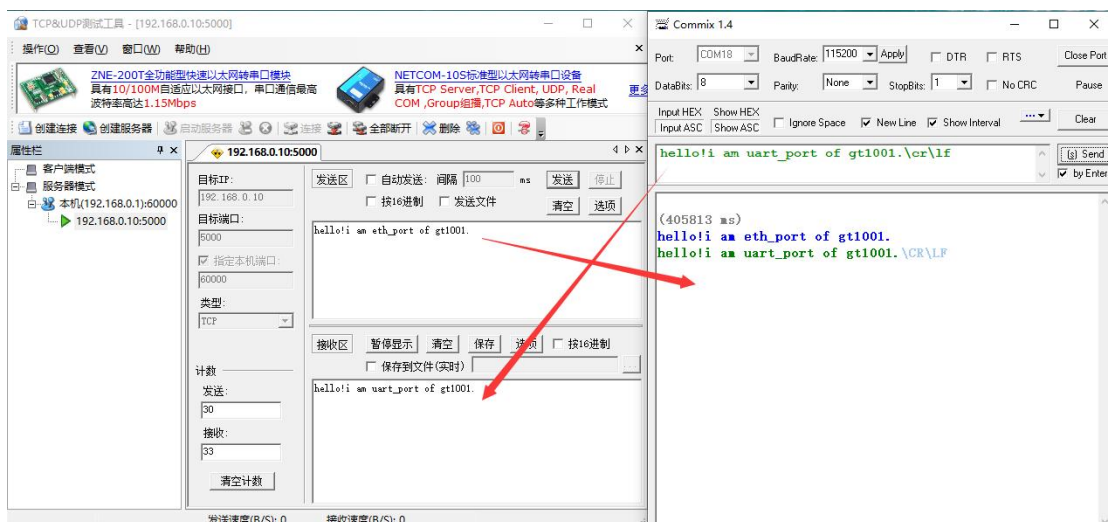

Figure 5-9 Network to serial port data transmission interface
(7) Network to serial port data flow transmission test: Computer AA network-> GT1001 network port-> GT1001 serial port-> Computer BB serial port. Input the data to be sent in the sending area of the network debugging tool on the computer AA, and then click Send. The corresponding data is received on AA, as shown in Figure 5-9.